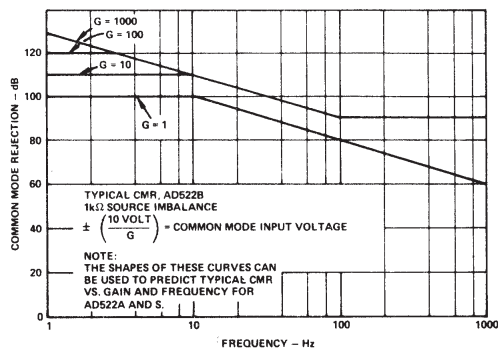

Figure 5. Common Mode Rejection vs. Frequency and Gain
Imbalance (see Fig. 5)
**Common Mode Rejection:** CMR is rated at  $\pm 10V$  and  $1k\Omega$  source imbalance. At lower gains, CMR depends mainly on thin-film resistor stability but due to gain-bandwidth considerations, is relatively constant with frequency to beyond 60Hz. The dc CMR improves with increasing gain and is increasingly subject to phase shifts in limited bandwidth high-gain amplifiers. Figure 5 illustrates CMR vs. Gain and Frequency.